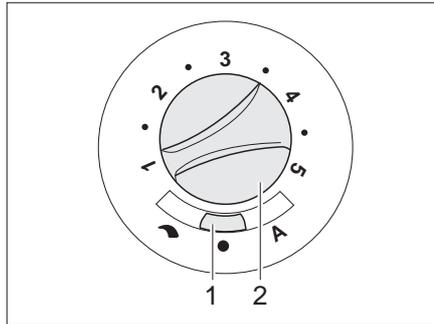

Fig. 113 Operating switch for circulation fan (12 V)
- Set sliding switch (Fig. 113,1) to "↷" (manual control) or "A" (automatic operation).
- If "↷" (manual control) is set on the sliding switch (Fig. 113,1): Turn the knob (Fig. 113,2) to the required position of the circulation fan.
- Set the sliding switch (Fig. 113,1) to "●" (off). This switch setting has no function in heating operation.